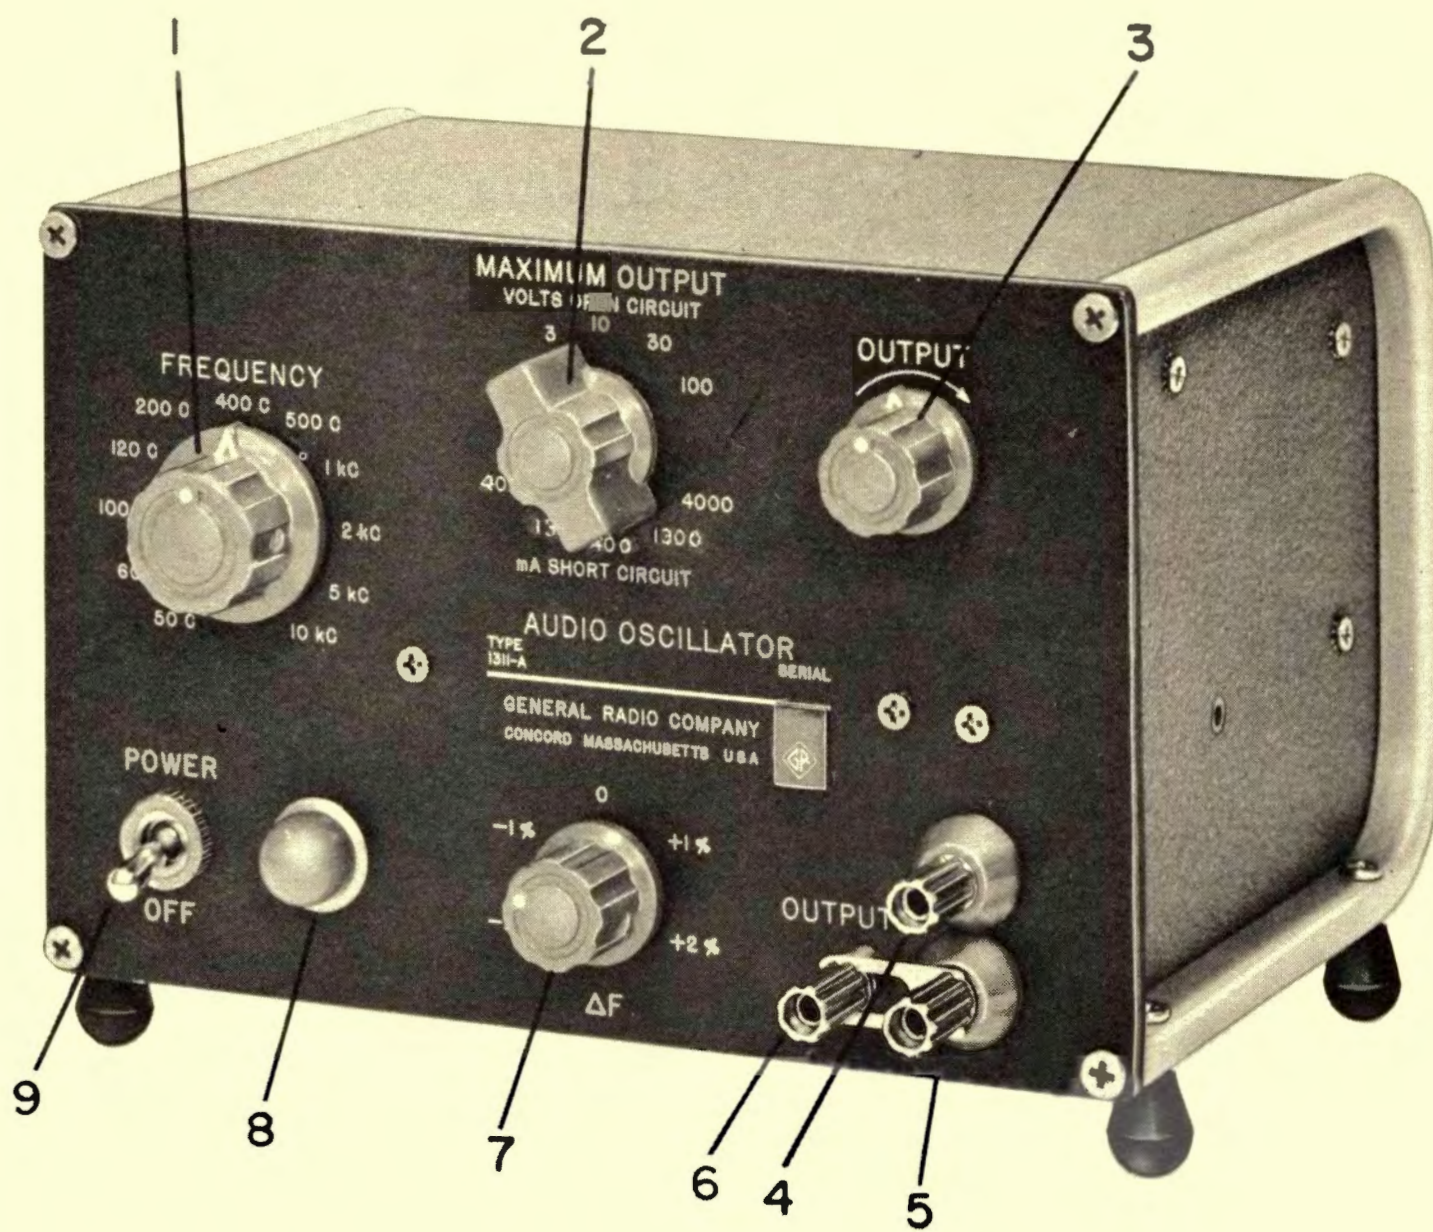

Figure 1-1. Type 1311-A Audio Oscillator.
The Type 1311-A Audio Oscillator (Figure 1-1) is a complete, compact, and self-contained audio-frequency source intended for general laboratory use, and is particularly well suited for use in audio-frequency bridge measurements. It can provide an essentially pure sinusoidal output, stable in amplitude and frequency, over a wide range of load impedances, at 11 frequencies. Provision has been made for a 12th frequency, which the user can readily add by the installation of two commonly available precision resistors.
3.1.2 GROUNDING. The instrument should normally be operated with the chassis grounded through the three-wire power cord. If the cord is not used, make the ground connection at J103(6, Figure 1-1) on the front panel, if required.
3.1.3 OUTPUT CONNECTION. Take the oscillator output from the jack-top binding post pair J101 - J102 (4 and 5, Figure 1-1). J101 is always used above ground, but J102 may be grounded or ungrounded, depending on the requirements of the test setup in use. A captive shorting-link affixed to J103 may be attached to J102, if it is desired to work one side of the output against ground. However, if ground loops pose a problem, disconnect the shorting link from J102 to achieve a completely isolated "floating" output.
3.2.1 TURN-ON. Place the POWER switch (9, Figure 1-1) in up position; the lamp immediately to the right should glow.
3.2.2 FREQUENCY SELECTION. Set the FREQUENCY switch (1, Figure 1-1) to the desired frequency. Use the ΔF control (7, Figure 1-1) to adjust the selected frequency over a range of approximately $\pm 2\%$ of nominal. The frequency of the output waveform is within $\pm 1\%$ of the panel
3.2.3 POWER SELECTION. Set the MAXIMUM OUTPUT switch (2, Figure 1-1) to a value in volts or milliamperes (as engraved on the front panel) that is slightly greater than the amplitude of the voltage or current desired. Then, rotate the OUTPUT control (3, Figure 1-1) to make the fine adjustment. The OUTPUT control sets the output at zero in its fully counterclockwise position, and rotated to its fully clockwise position provides a continuous linear increase up to the value of the MAXIMUM OUTPUT control setting.